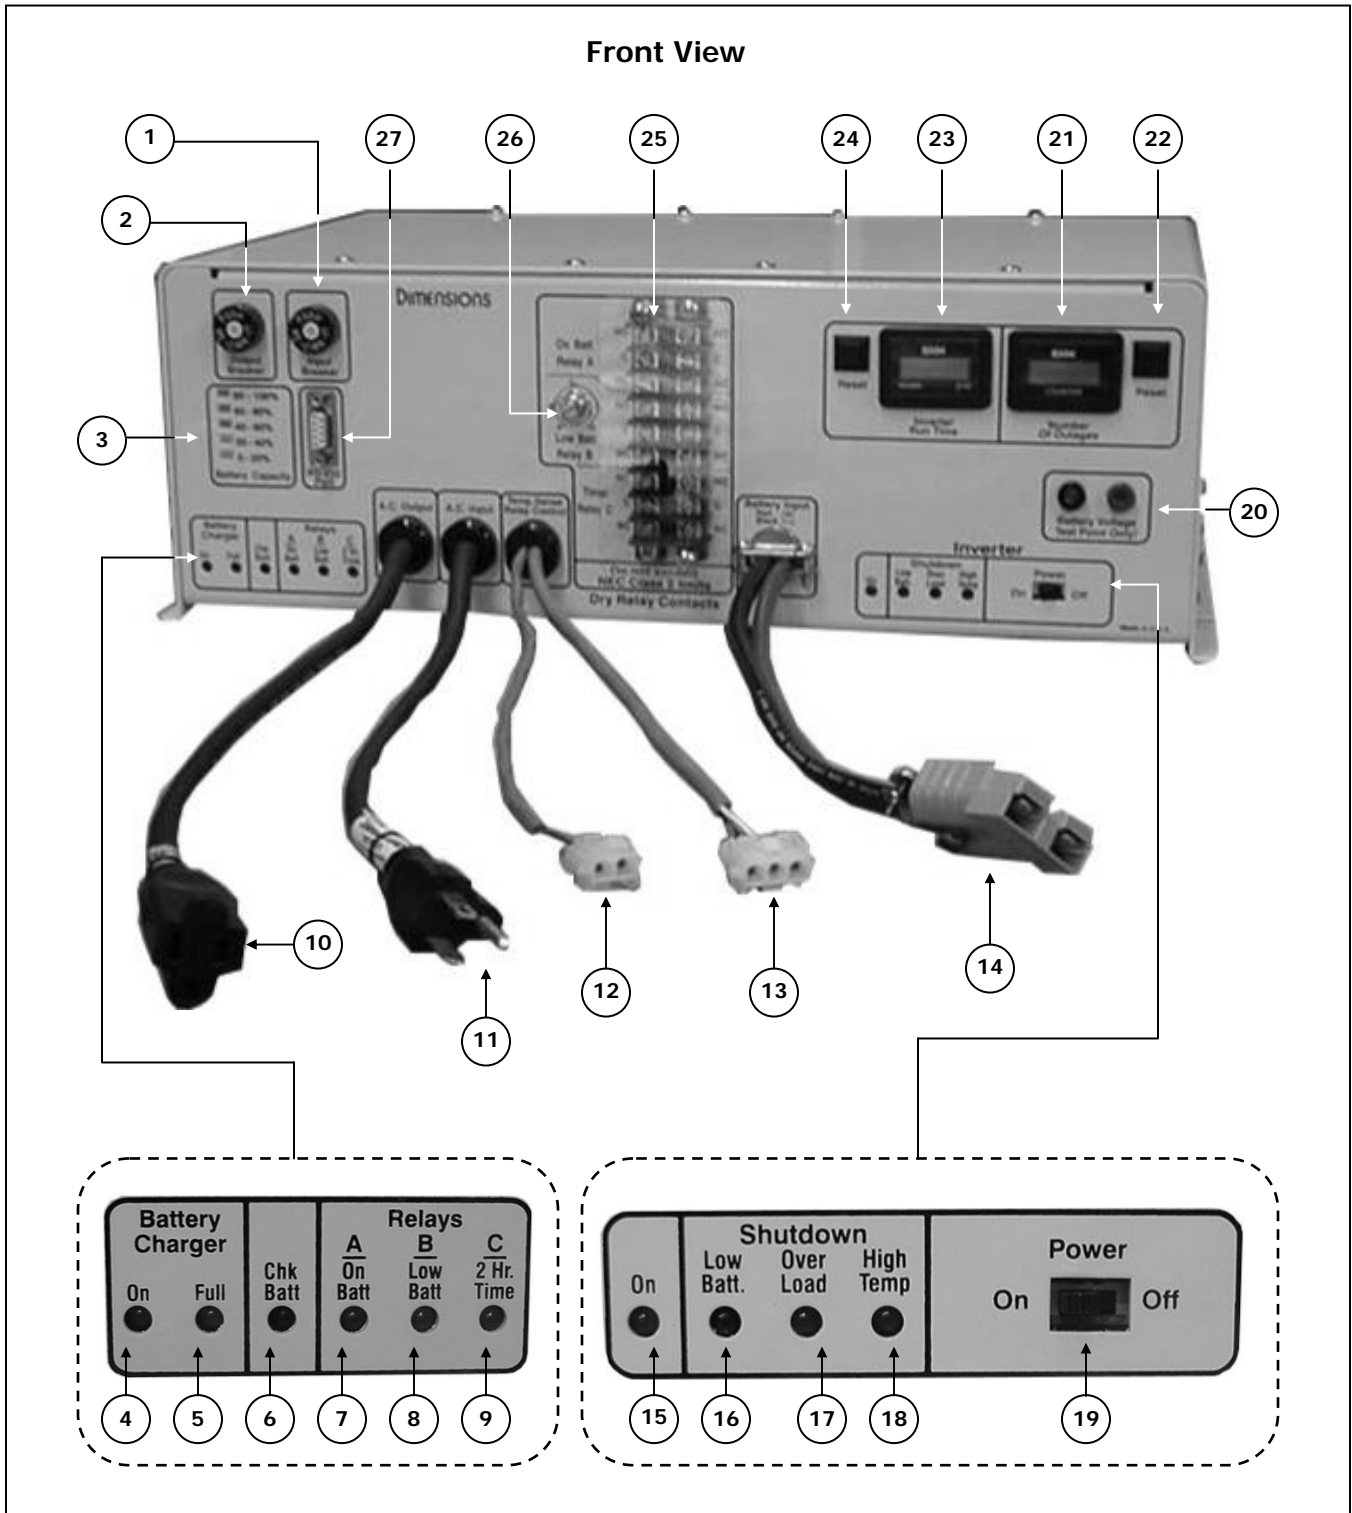

FIGURE 1: BBS Module model ADI-24M11 physical description front and rear view
- (28) **Manual Bypass Switch (MBPS):** Used to isolate the BBS system from external AC power during routine maintenance.
- (29) **Terminal Board:** AC Wiring connector board.
- (30) **Terminal Board:** AC Wiring connector board
- (31) **Transfer Relay Connector:** Connects to Item 12, Figure 1, Page 5 to drive the 30-amp relay.
- (32) **A.C. Input Plug Cord:** Connects to Item 10, Figure 1, Page 5
- (33) **A.C. Output Outlet Cord (30ATR):** Connects to Item 11, Figure 1, Page 5
- (34) **AC Output Cord:** Connects to Item 11, Figure 1, Page 5
- (35) **Bypass Indicator:** Lights to indicate the switch is in the bypass mode.
- (36) **Terminal Board:** AC Wiring connector board
- (37) **Transfer Relay Connector:** Connects to Item (12) on Figure 1, Page 5 to drive the 30-amp relay.
- (38) **Bypass Switch:** Used to isolate the BBS system from external AC power during routine maintenance.
- (39) **AC Input Plug Cord:** Connects to Item 10, Figure 1, Page 5